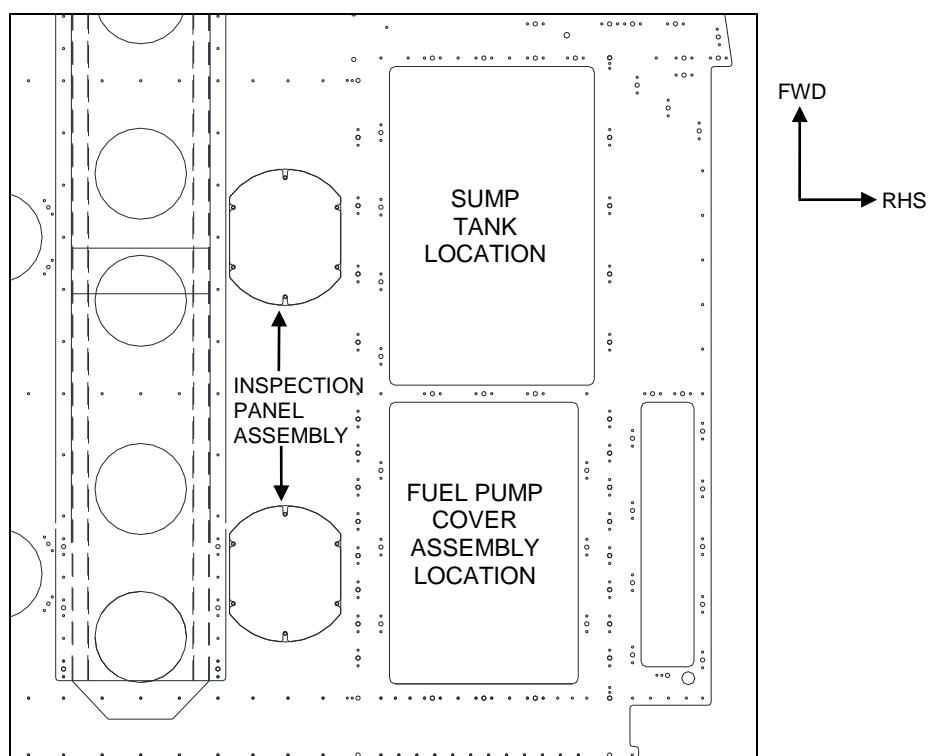

Figure 24: Inspection Panel Assembly Installation
1. Place Inspection Panel Assembly (Item 7) over the two floor inspection holes immediately inboard of the Sump Tank and the Fuel Pump Inspection Panel Area. See Figure 24.